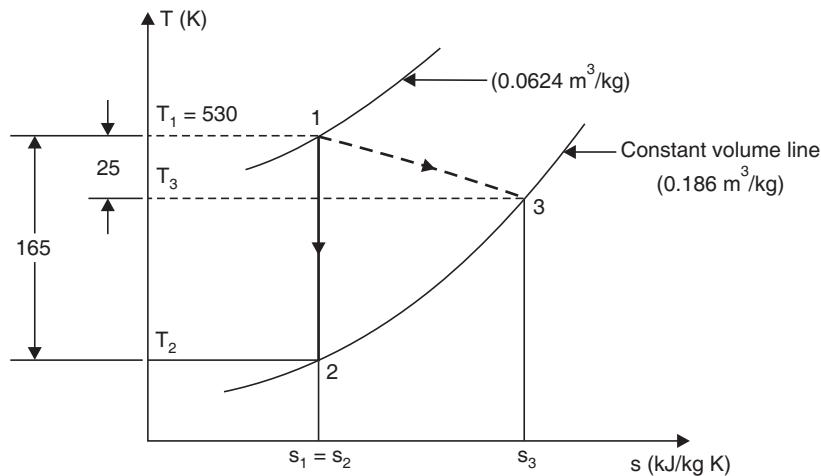

Fig. 3.38
**Solution.** Refer to Fig. 3.38.